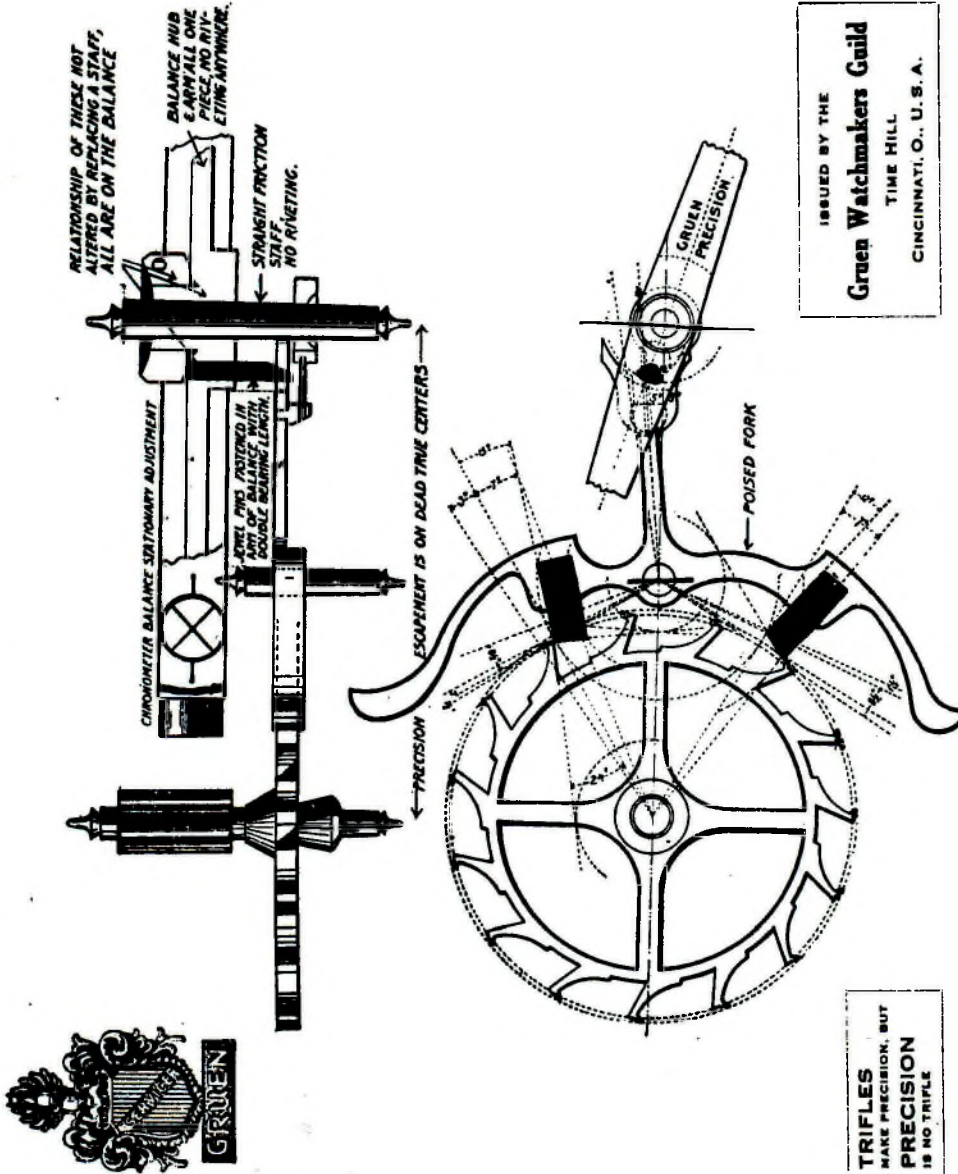

Fig. 74
The escapement consists of a toothed escape wheel, the pallet fork complete with a receiving and discharging stone, a guard pin and a pallet arbor; and the roller table. (Fig 74)
Roller Jewel - The relation between the fork and roller jewel are divided into two parts: (1) the unlocking of the pallets and (2) the impulse to the balance. The unlocking takes place as a result of power from the balance and hairspring, while the impulse to the balance receives its energy by means of the power derived from the mainspring and transmitted through the train to the escape wheel. The roller jewel should fit the notch in the fork as closely as possible, be free and perpendicular to the roller table. A jewel that is too small will cause the lever to move some distance without giving impulse, resulting in a poor motion to the balance wheel. (Fig 74)